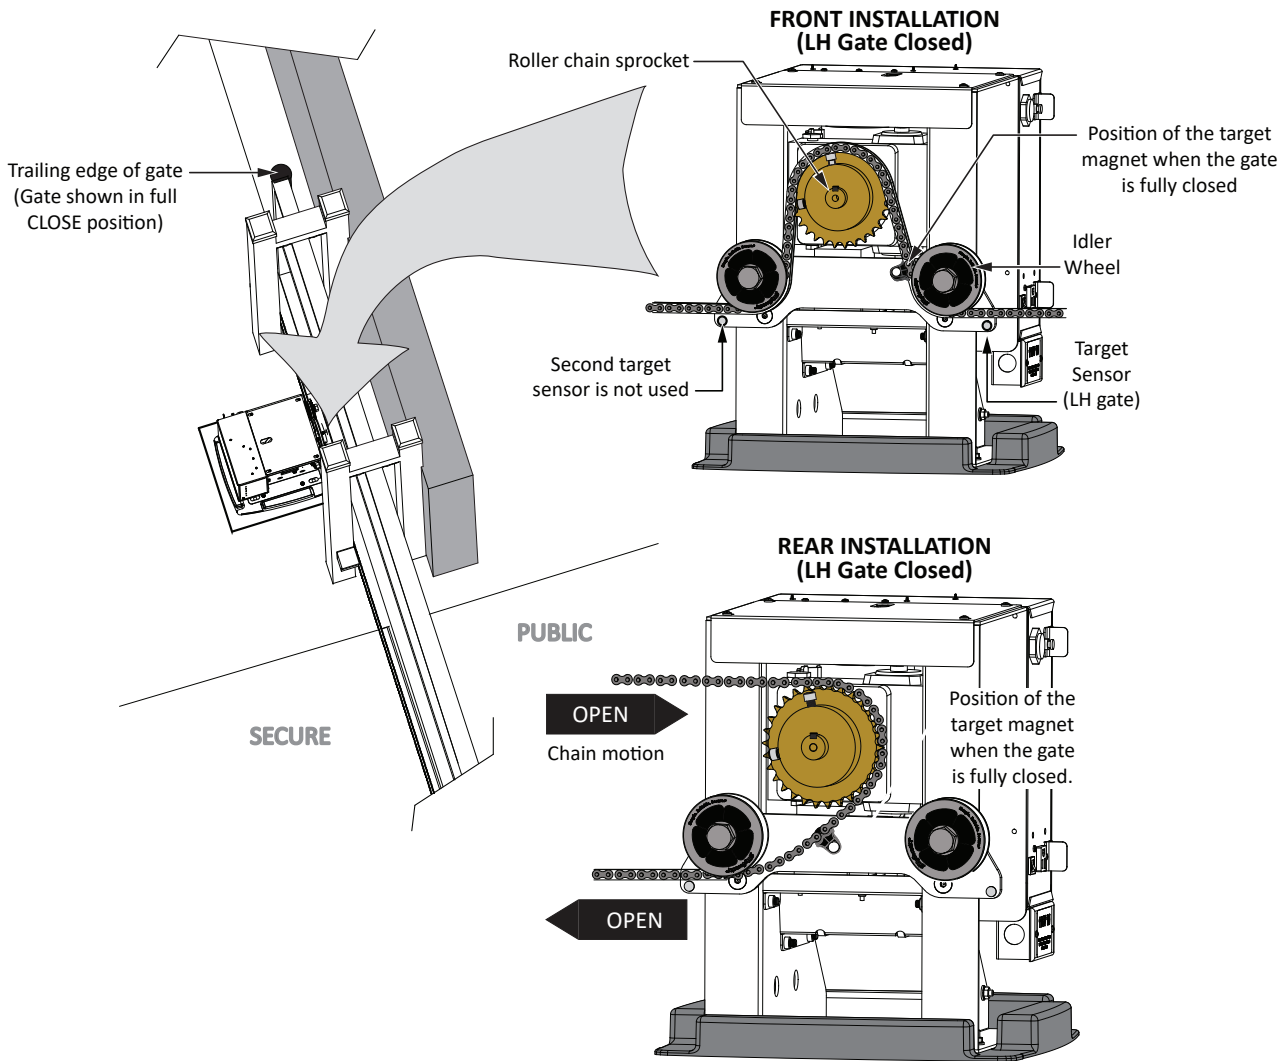

Figure 21. Target Magnet Installation Front and Rear
1. Install a grounding rod per local building codes. See Figure 21.